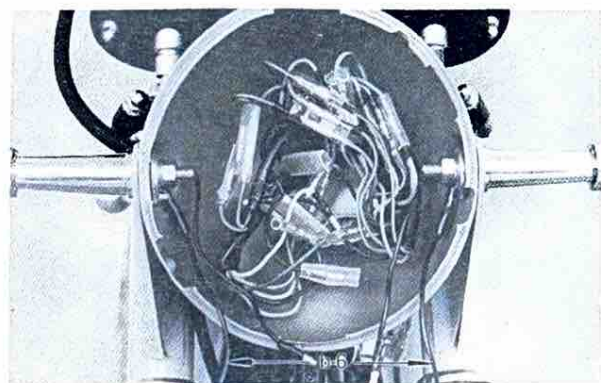

Fig. 34
26. Install the right and left front flasherlights (9) and negative lead wires (b-6) using two spring washers and nuts which were used for temporary headlight installation. (Fig. 34)